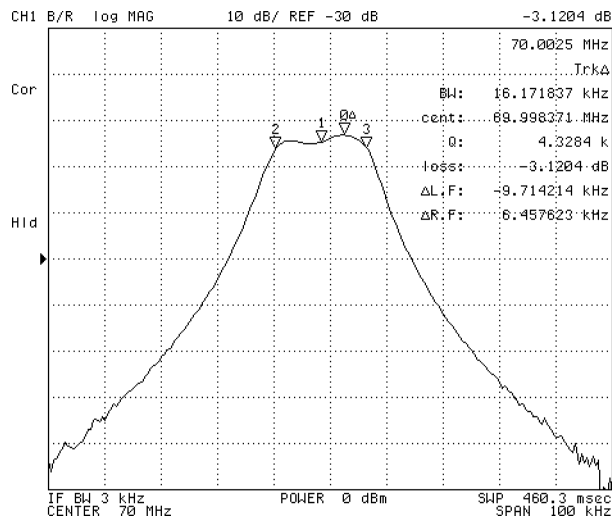

Figure 8-11. Bandwidth Measurement Using Width Function
As shown in Figure 8-11, a pair of sub-markers appear on both sides of the reference marker, being lowered by the specified number of levels; also, another sub-marker is displayed in the middle between the two sub-markers. The bandwidth (BW), center frequency (cent), Q factor (Q), insertion loss (loss), and left and right hand bandwidth from the center frequency (ΔL.F and ΔR.F) are displayed at the upper right corner of the grid.